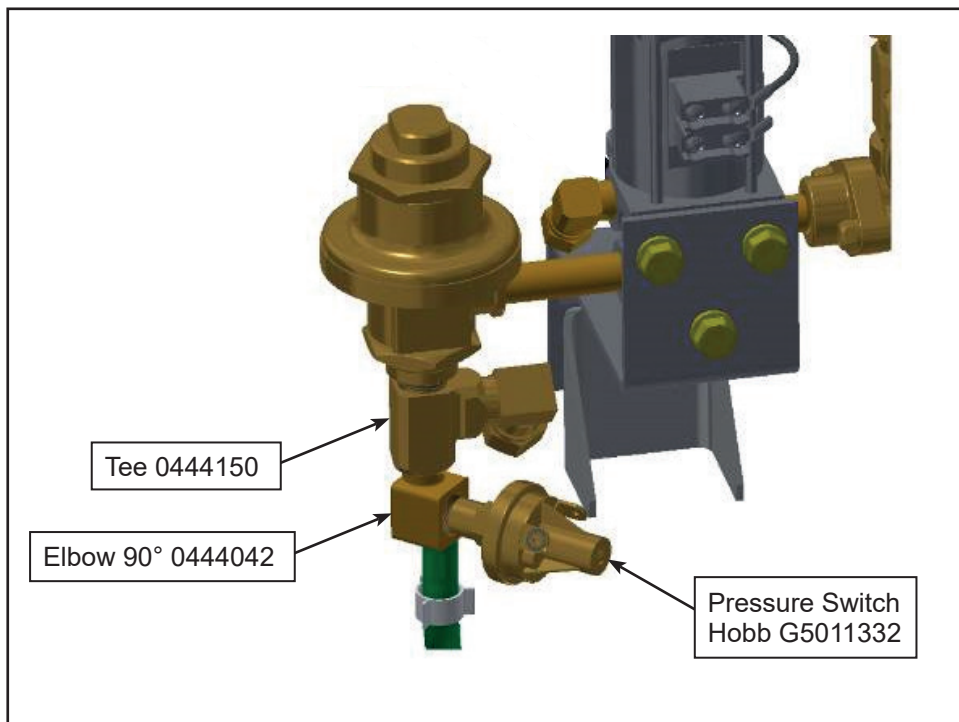

Figure 5 - Retain the Connectors
- 1.11. Retain tee P/N 0444150, elbow 90° P/N 0444042 and pressure switch hobb P/N G5011332 (see figure 5).